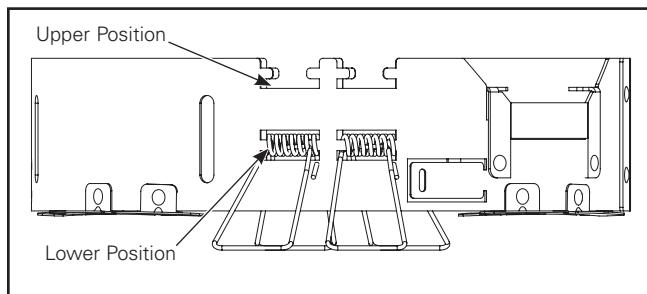

Figure 31.
5. Retrofit ring can be adapted to various ceiling thicknesses and plaster frame/housing heights by using different slot locations for mounting springs. HC8R/ HC812R ships with springs in upper position for a combined ceiling and housing thickness greater than 1" and no more than 2". For ceiling/housing thicknesses between 0.5" and 1" mounting springs should be moved to lower position (Figure 31).